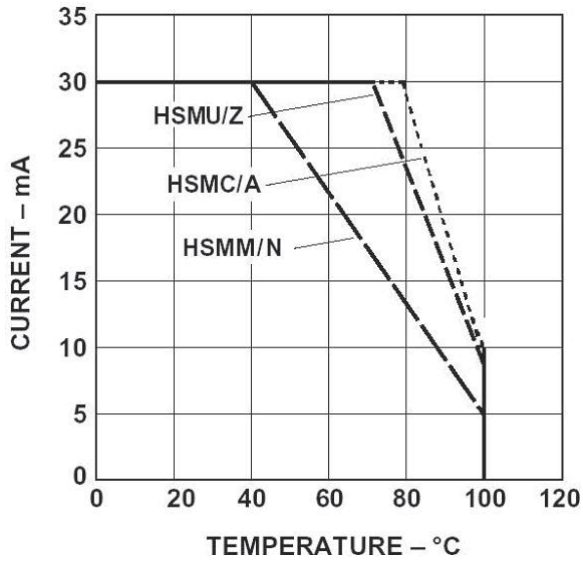

Figure 5. Maximum Forward Current Vs. Ambient Temperature. Derated Based on  $T_{J\text{ MAX}} = 110^\circ\text{C}$ ,  $R\theta_{JA} = 500^\circ\text{C/W}$
1. Derate linearly as shown in figure 5.